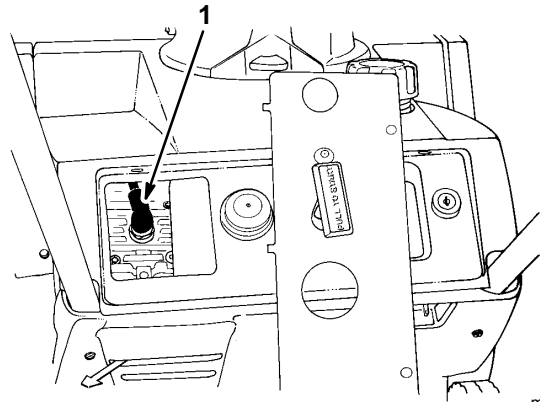

Figure 15
3. Pull the wire off the spark plug and remove the spark plug (Fig. 15).